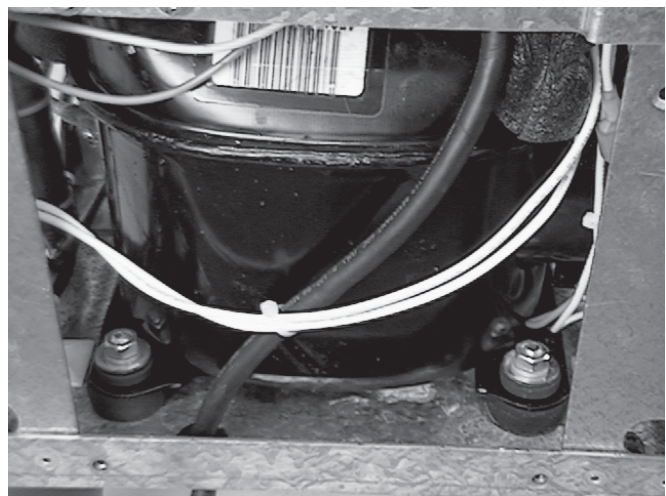

Figure 41. Compressor
3. Remove the four nuts, washers, and bolts holding the compressor to the frame. Figure 41.